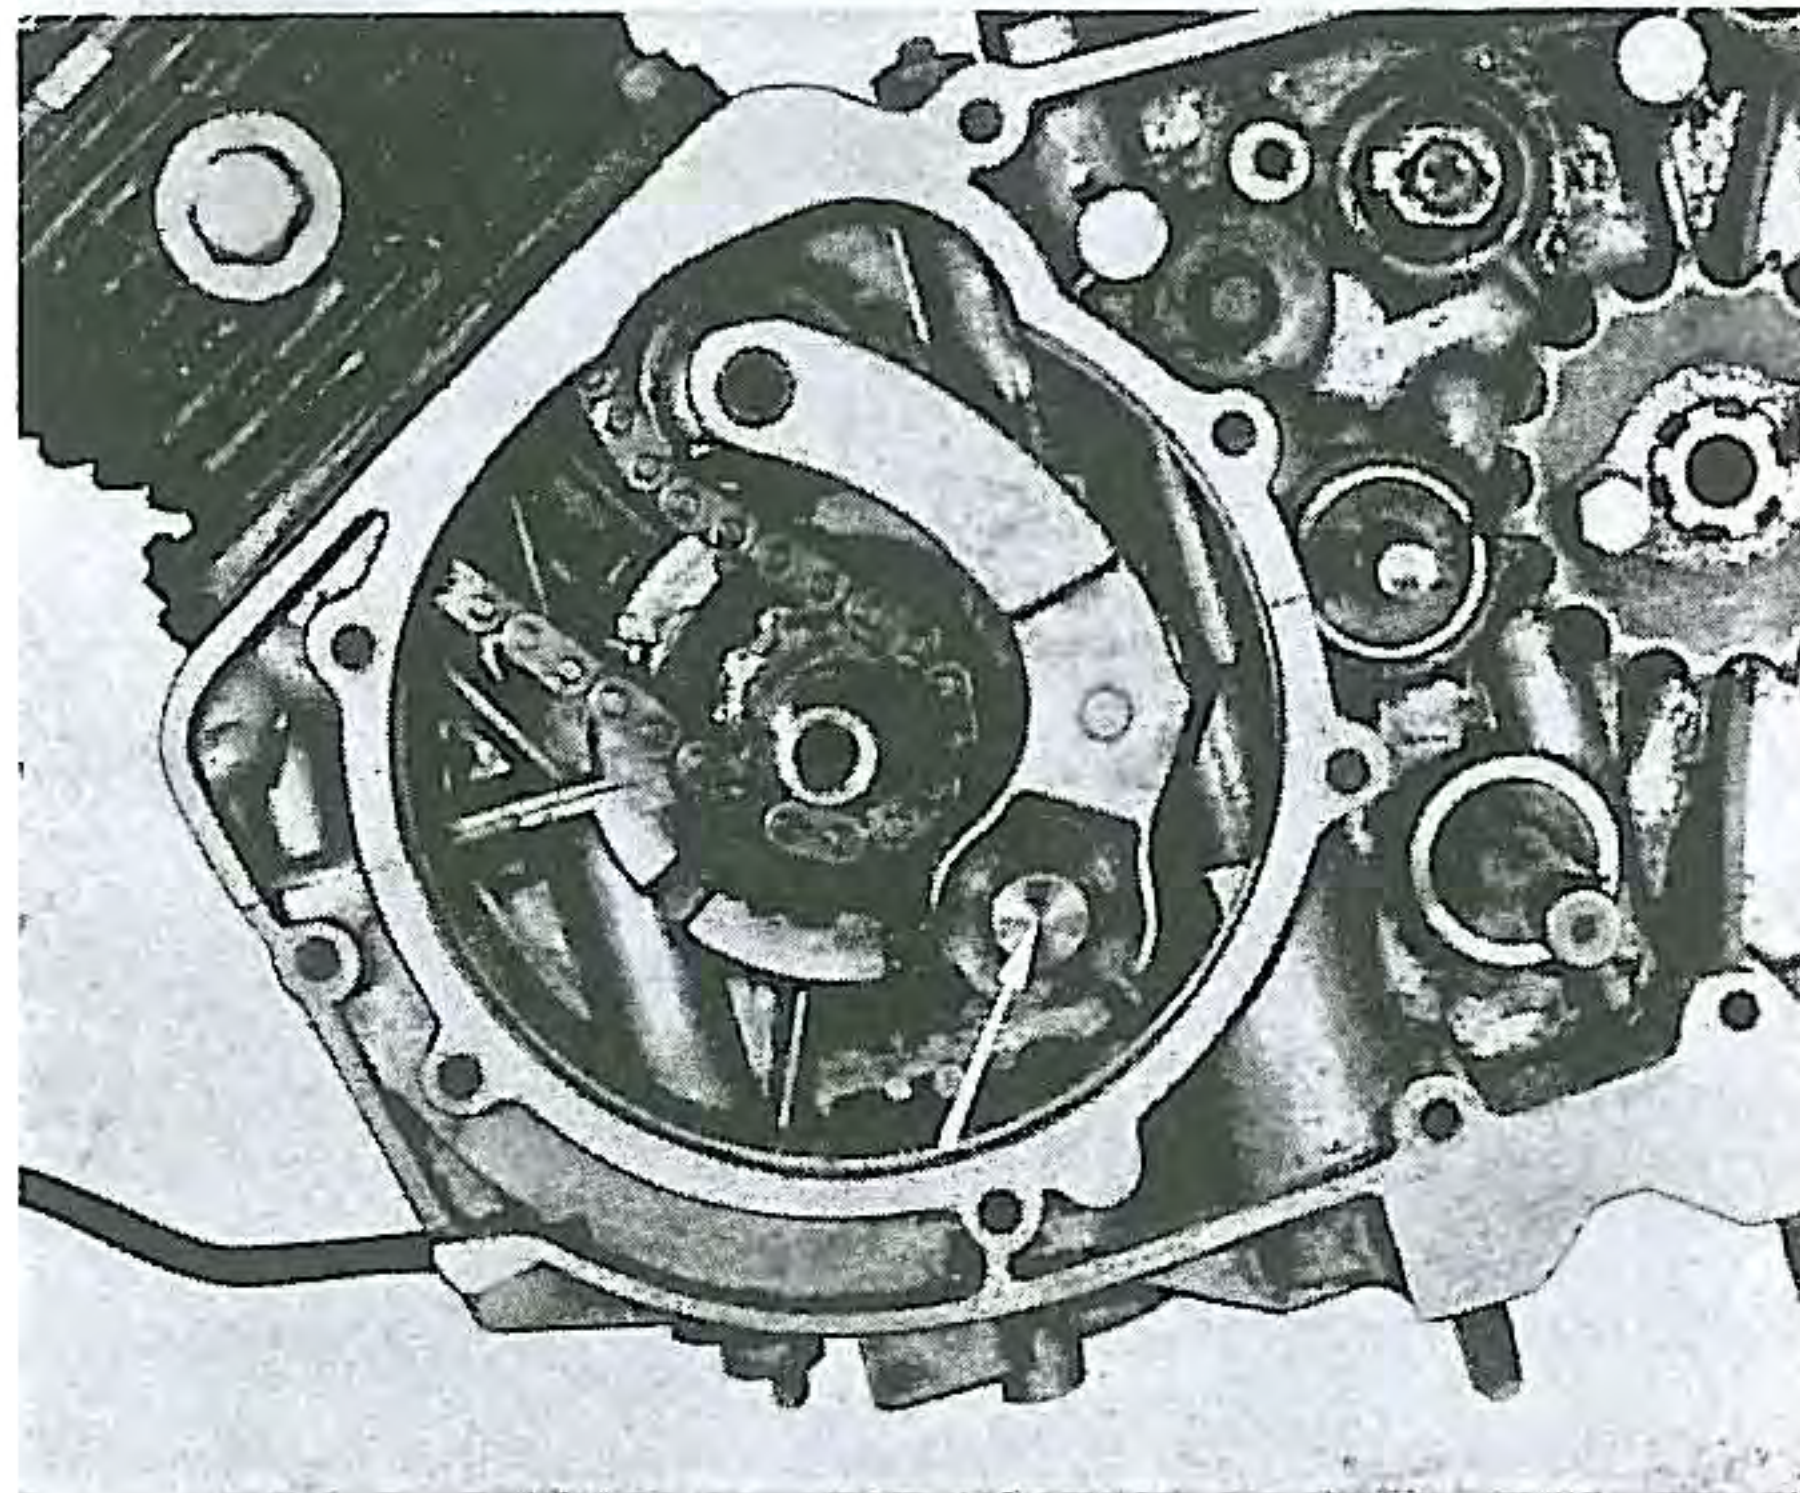

Fig. 28. Cam chain tensioner pivot bolt (arrow mark)
- (6) Remove the cam chain tensioner pivot bolt marked with an arrow in Fig. 28 and take out the cam chain tensioner. For accessibility in doing this, previously screw in the cam chain tension adjusting screw attached to the upper crankcase at the bottom.